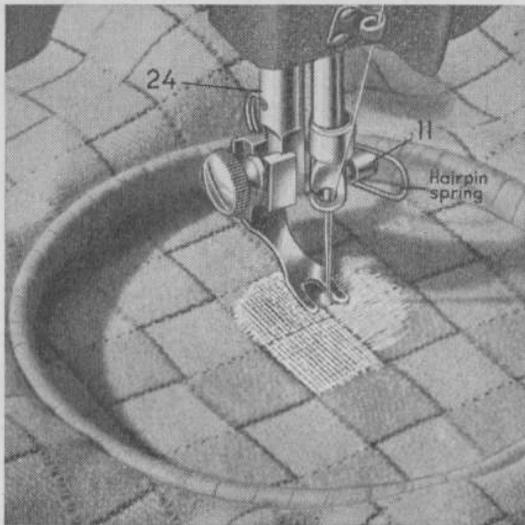

FIG. 28
Prepare machine for this work by removing the presser foot from the presser bar (24), attaching instead the darning presser foot (fig. 28).